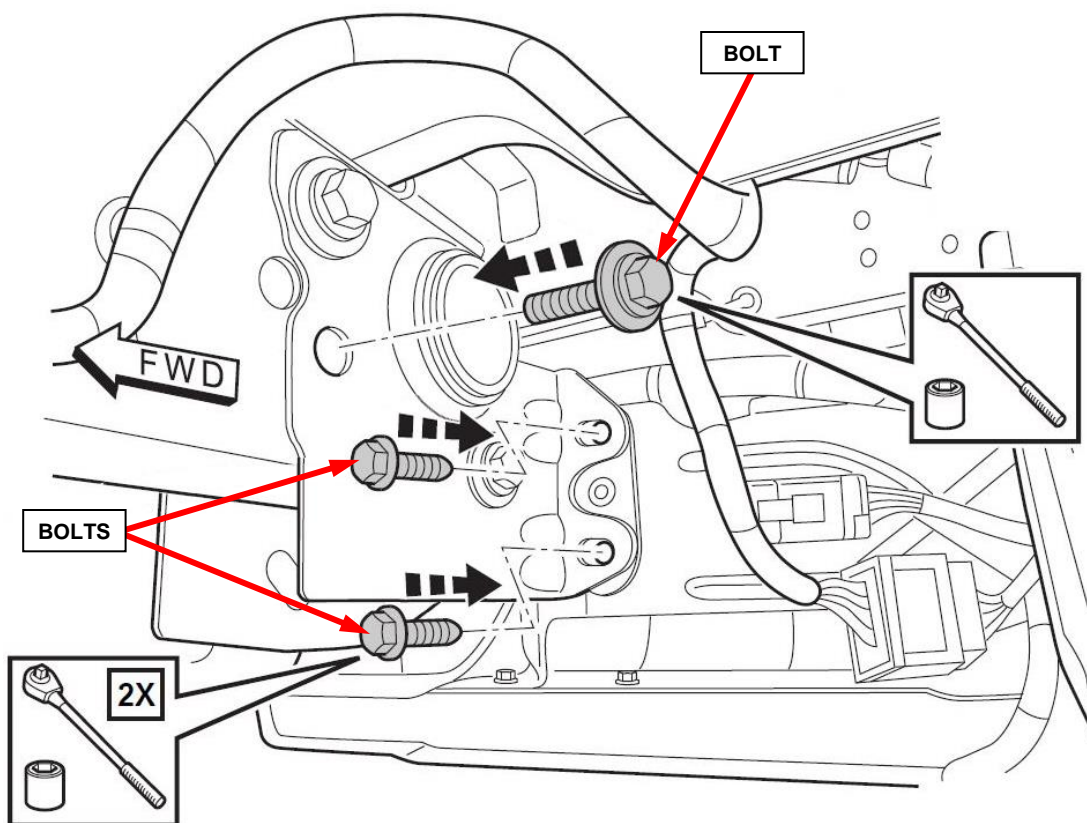

Figure 3 – Install and Tighten Fasteners
4. Install the two bolts securing the bumper bracket to the bumper. Tighten the bolts to 68 N·m (50 ft. lbs.) (Figure 3).
5. Install the bolt securing the hitch bracket to the vehicle frame. Tighten the bolt to 140 N·m (103 ft. lbs.) (Figure 3).